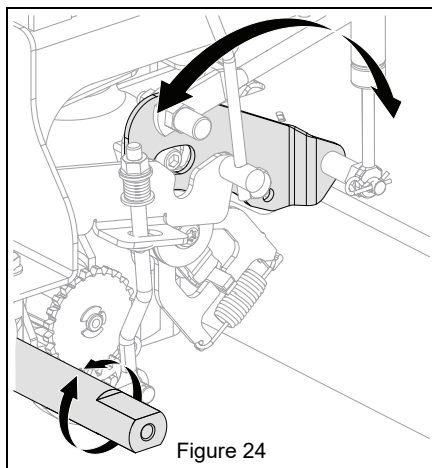

Figure 24
7. **Technician:** Slowly turn transaxle control arm in the opposite direction of axle rotation until axle stops. See Figure 24.